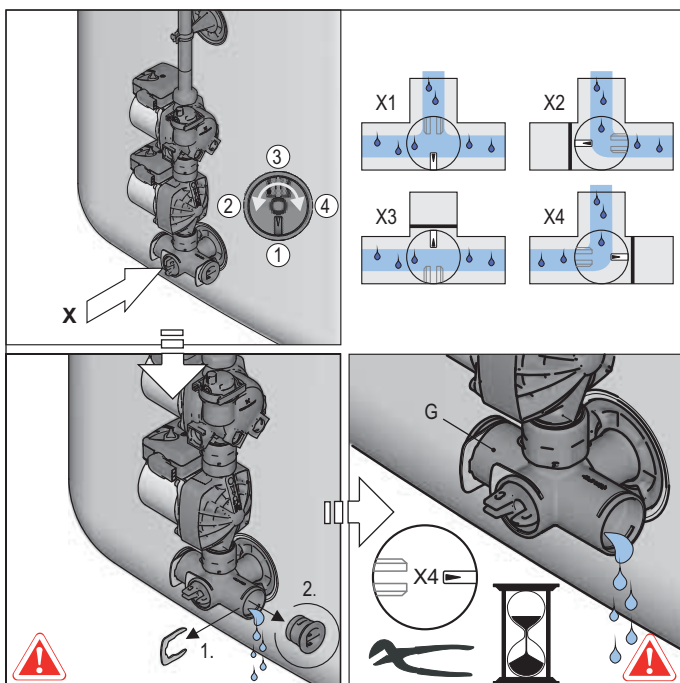

Fig. 5-5 Shutting off the valve insert and removing the blanking plug from the connecting angle
- Adjust the valve insert on the connecting angle so that the blind plug is cut off (figure 5-5).
- Remove the blanking plug from the connecting angle (figure 5-5) and place a suitable collection trough under the unit.
- Adjust the valve insert on the connecting angle so that the flow to the drain hose is opened (also refer to figure 5-5) and drain the water content of the storage tank.